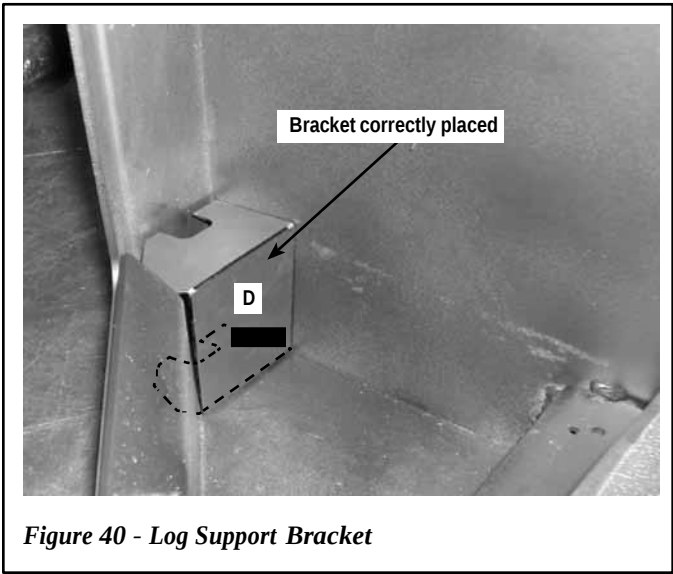

Figure 40 - Log Support Bracket
2. One bracket goes into the left corner and the other into the right corner of the firebox. Rotate the brackets (D) so they are placed as shown in **Figure 40**. The bracket fits between the back of the firebox and the air wash at the front of the insert.